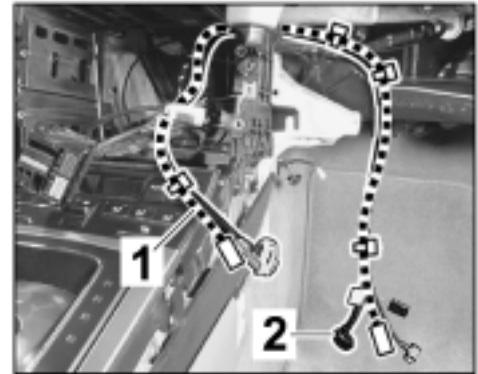

Figure 21
- 4.1 Route USB line ⇒ *Figure 21 -1-* along the standard AUX line ⇒ *Figure 21 -2-* and secure it with a tie-wrap.